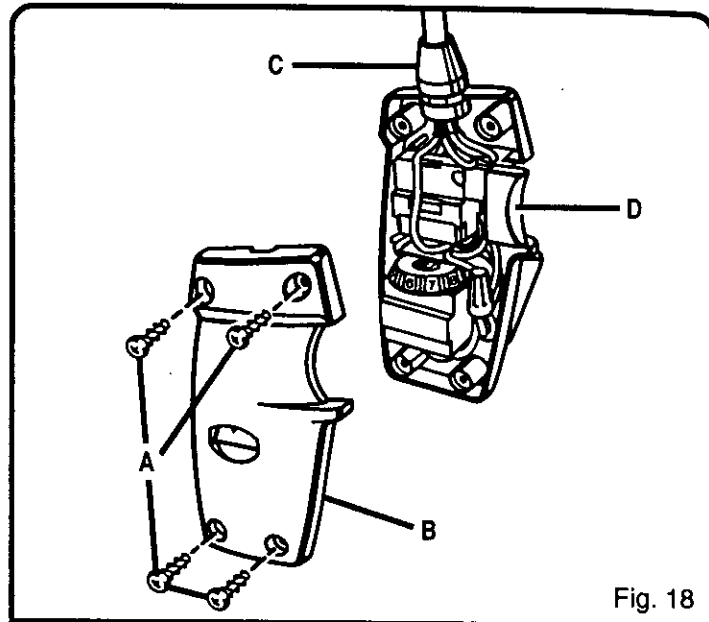

Fig. 18
See Figures 18 and 19.
- Remove screws (A) and handle cover (B). See Figure 18.
- Note the location of the molded bend relief (C) on the power handle cord. Also note all wiring in the handle and how each lead is connected to the switch. Connections and wiring position must be identical when installing new switch. See Figure 18.